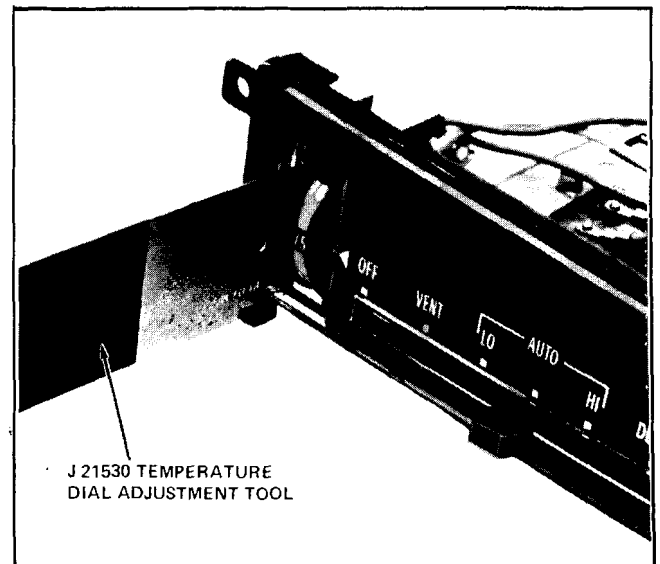

Fig. 1B-53 B Series Temperature Dial Adjustment
3. Loosen screw and remove programmer link from programmer output shaft (Fig. 1B-42).